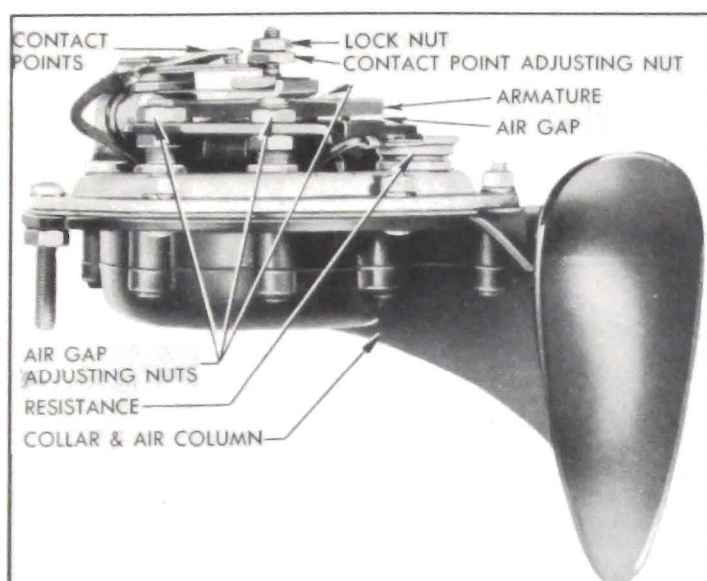

Figure 10-113—Horn—Adjustments
2. Remove back shell and bracket. See figure 10-113. Using feeler gauges, check the air gap and adjust by means of the three adjusting nuts, if necessary, to obtain a uniform gap across the entire surface of armature, as follows:
7. Adjust to specified current draw, if necessary, by loosening lock nut and turning contact point adjusting nut (fig. 10-113) clockwise to decrease or counterclockwise to increase amperage. This adjustment is very sensitive, and adjusting nut should not be moved more than one-tenth turn at a time, then locked with nut each time before trying the horn. Increasing the current draw increases the horn volume; however, too much current will cause the horn to have a sputtering sound, and may cause the horn to lock in cold weather.